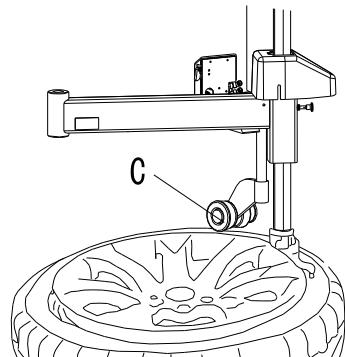

Fig. 11
3. Near by demounting/mounting head, insert lift lever N into tyre, use lift lever to lift bead upon knob of demounting / mounting head. Manually rotate roller C to inner side, pull handle D down, make roller C to press rim, keep 3-5 mm gap between demounting/mounting head and rim, make sure demounting/mounting head not damage rim, rotate turntable, demount tyre upper bead (fig 11).